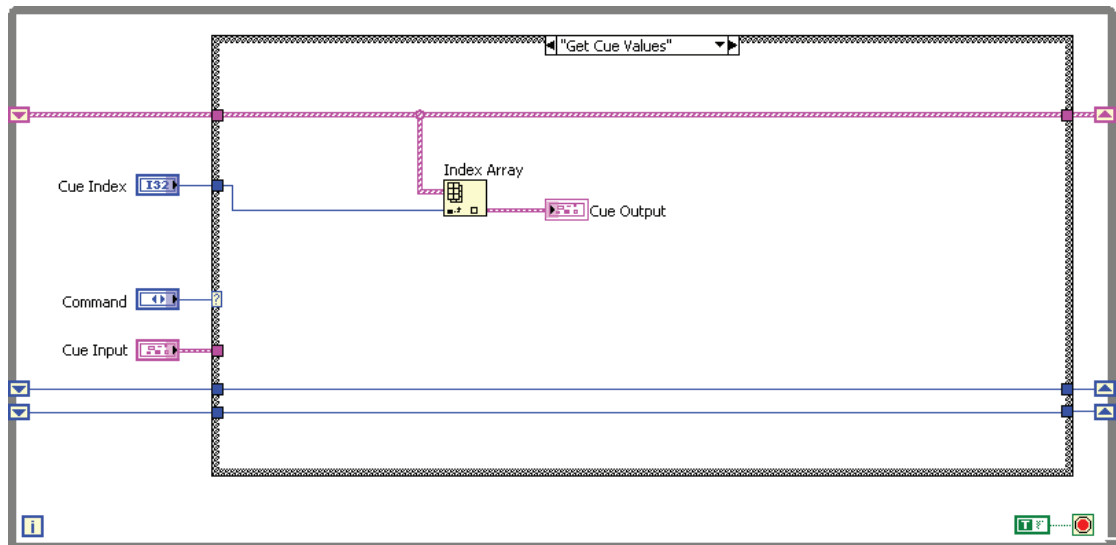

Figure 4-13. Get Cue Values Case
7. Use the Index Array function to complete the Get Cue Values case, as shown in Figure 4-13. This case loads the next cue from the Cue List.